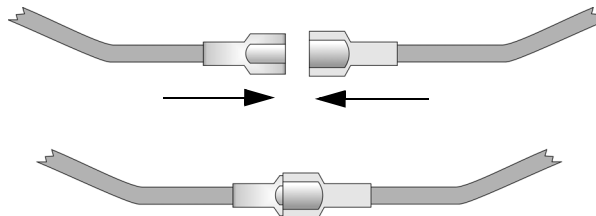

Figure 4.6 Splicing Control panel Battery Cable to RBB Battery Cable Extenders
2. Connect the main control panel battery cables to the battery cable extenders as shown in Figure 4.6.
3. Run extended battery cable from control panel cabinet through conduit to RBB cabinet. See Figure 4.6.
4. Connect the battery leads to the backup battery terminals. See Figure 4.6. Observe the proper polarity to prevent damage to the batteries or the control panel.
5. Insert the RBB cover screws into the cover mounting holes (see Figure 4.6). Screw the cover screw 3/4 of the way into the cover mounting hole.